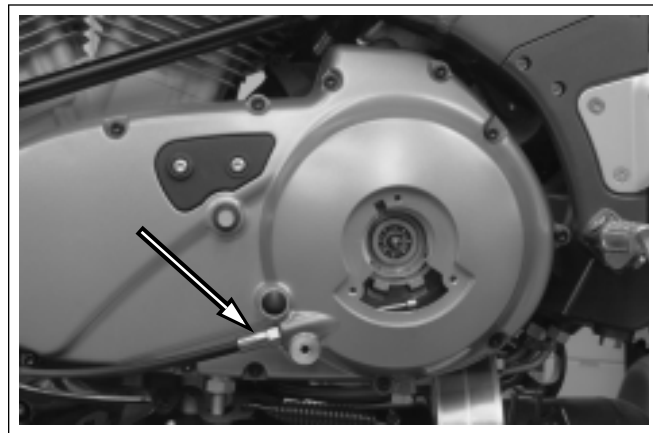

Figure 2-99. Clutch Cable and Fitting
16. See Figure 2-99. Unscrew the cable fitting from the primary cover. Remove clutch cable and fitting.